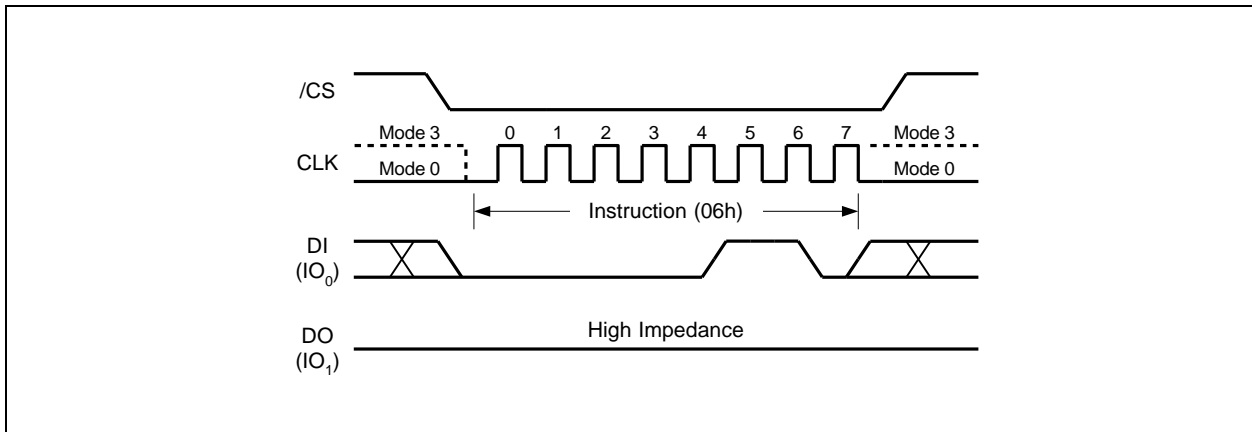

Figure 6. Write Enable Instruction
The Write Enable instruction (Figure 6) sets the Write Enable Latch (WEL) bit in the Status Register to a 1. The WEL bit must be set prior to every Page Program, Quad Page Program, Sector Erase, Block Erase, Chip Erase, Write Status Register and Erase/Program Security Registers instruction. The Write Enable instruction is entered by driving /CS low, shifting the instruction code "06h" into the Data Input (DI) pin on the rising edge of CLK, and then driving /CS high.